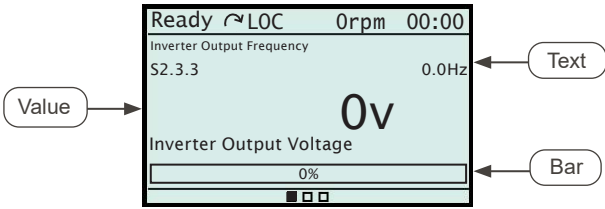

Figure 4.11: Inline View
- **Line:** in one line, it is possible to display a reading variable in the format **text, value or bar**. Figure 4.11 on page 70 shows an example with the three formats.